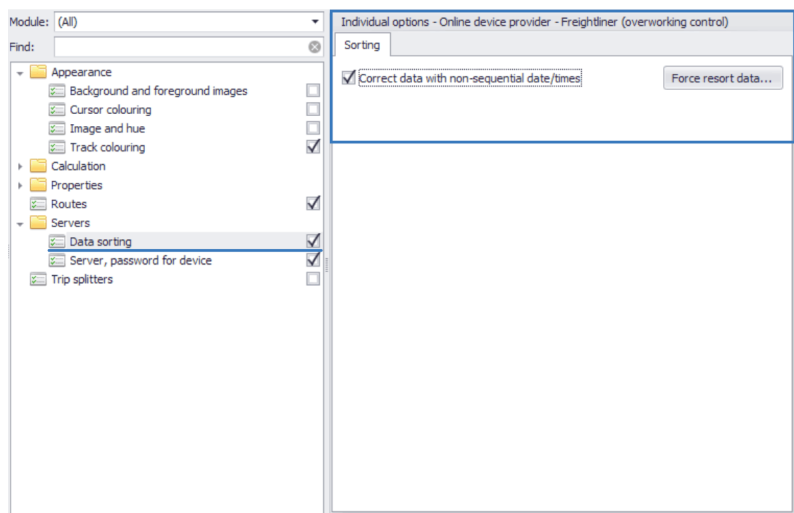

Fig. 54. Non-sequential data sorting.
- For automatic data sorting at a reception enable the “Correct data with non-sequential date/times” option – go to section Servers > Data sorting and enable option (Fig. 54).